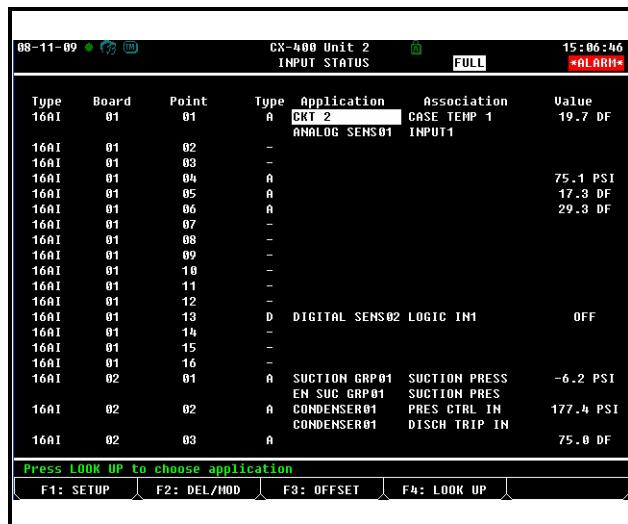

Figure 9-4 - Input Status Screen
Open the Analog Input screen by selecting an Analog (A) input from the Input Status screen **Figure 9-4** and pressing **F1** (SETUP).
The Analog Input screen **Figure 9-4** is where sensor types, units, and default values are specified for analog input points.
Open the Digital Input screen by selecting a Digital (D) input from the Input Status screen *Figure 9-4* and pressing **F1** (SETUP).